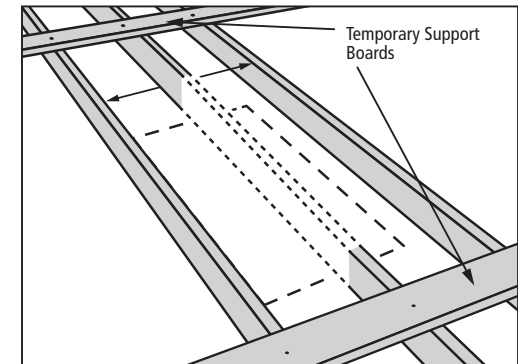

FIGURE 19
B. Rough opening with joist removal (Figure 19)